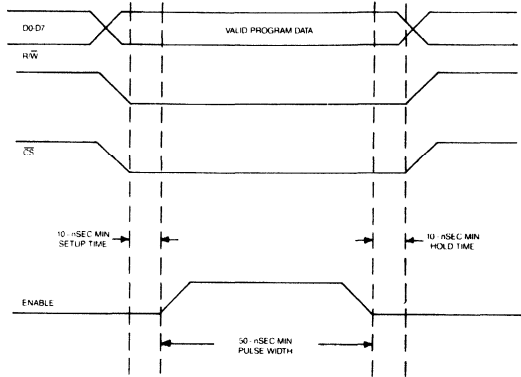

Figure 3. WRITE Command Timing
CS, R/W, A0, A1, A2 — Timing relationships between these signals and Enable are shown in Figures 3 and 4.
- C. Set the Chip Select line (\bar{CS}) to a logical "0" state. The order in which these signals are applied isn't important, as long as they conform to the timing constraints relating to Enable (E) shown in Figure 3.
- D. Activate the Enable (E) line. The Enable line performs the actual read operation. It is a positive pulse, at least 50 nsec wide.